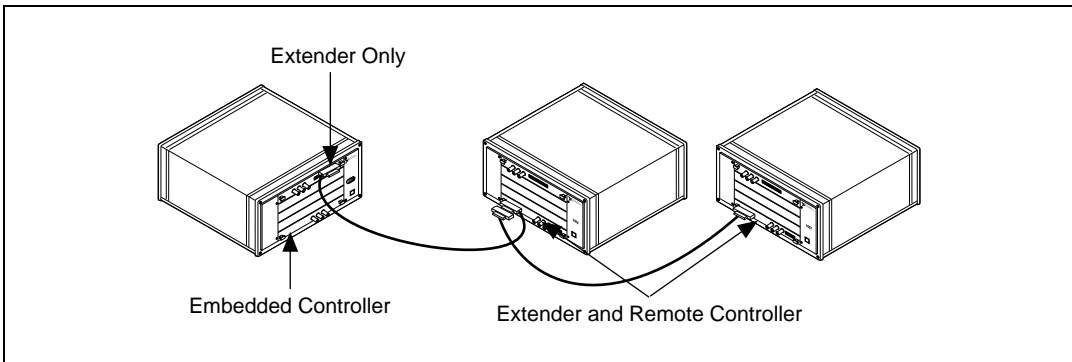

Figure 2-1. An Embedded Controller Connected to Other Frames via Mainframe Extenders Using MXI-2
- An embedded controller in one frame that is connected to other frames via mainframe extenders using MXI-2. VXI-MXI-2 or VME-MXI-2 boards in the other frames can also be used as remote controllers. See Figure 2-1.